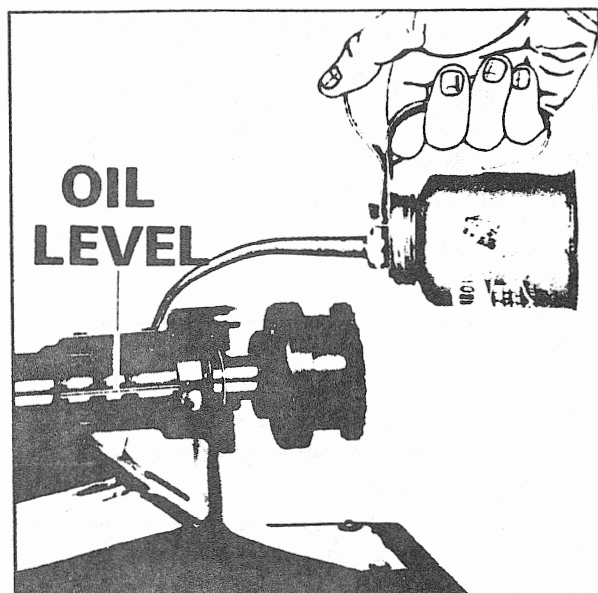

FIGURE 31
- Remove the two (2) red plugs on the top of the suction piece and fill the cavities with **SAE 20 oil, non detergent (non heavy duty type)** (fig. 31).